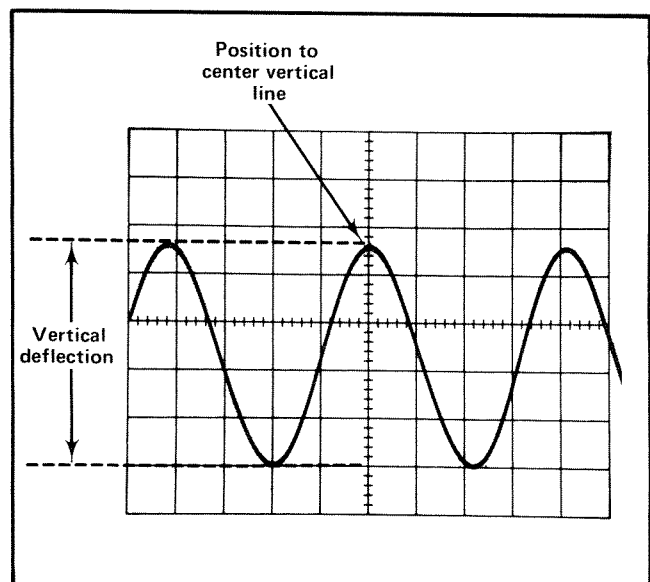

Fig. 2-2. Measuring the Peak-to-Peak Voltage of a waveform.
6. Turn the 7A12 POSITION control so the lower portion of the waveform coincides with one of the graticule lines below the center horizontal line, and the top of the waveform is within the viewing area. With the time base Position control, move the display so one of the upper peaks lies near the center vertical line (see Fig. 2-2).
EXAMPLE: Assume that the peak-to-peak vertical deflection is 4.5 divisions (see Fig. 2-2) using a 10X attenuator probe and the VOLTS/DIV switch is set to 1 V.